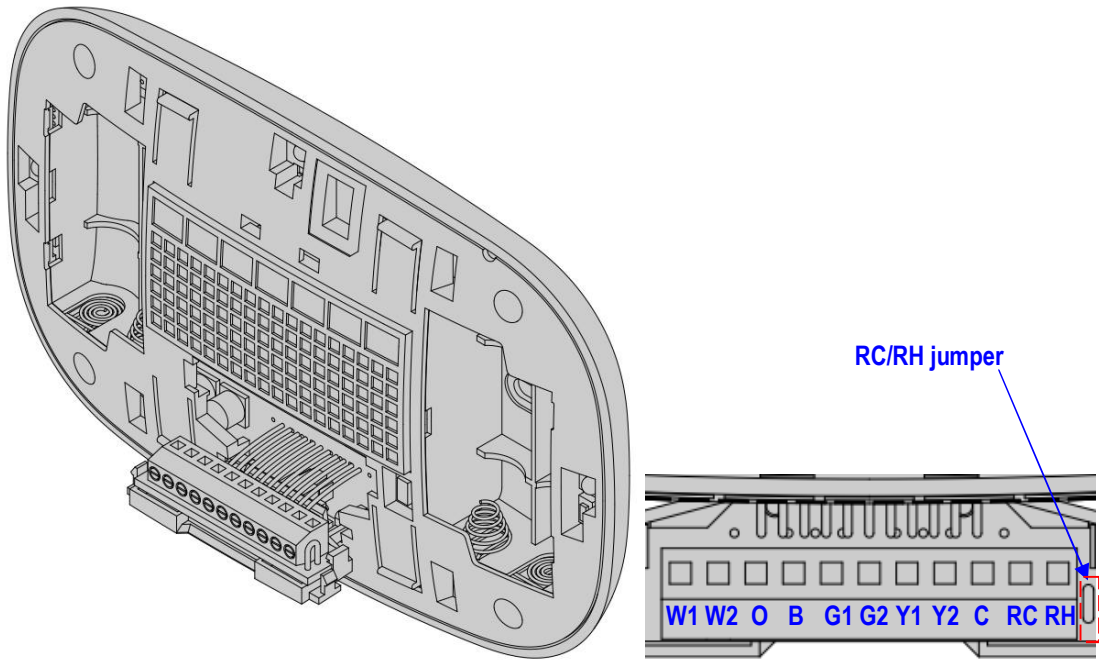

Figure 4. Terminal wiring
5. Wire the proper cables to the terminal block according to the circuit diagram as described in figure 4 and "Thermostat Terminal Wiring". Afterward, push all cables back into the wall then close the terminal block of the ZTS-500US.